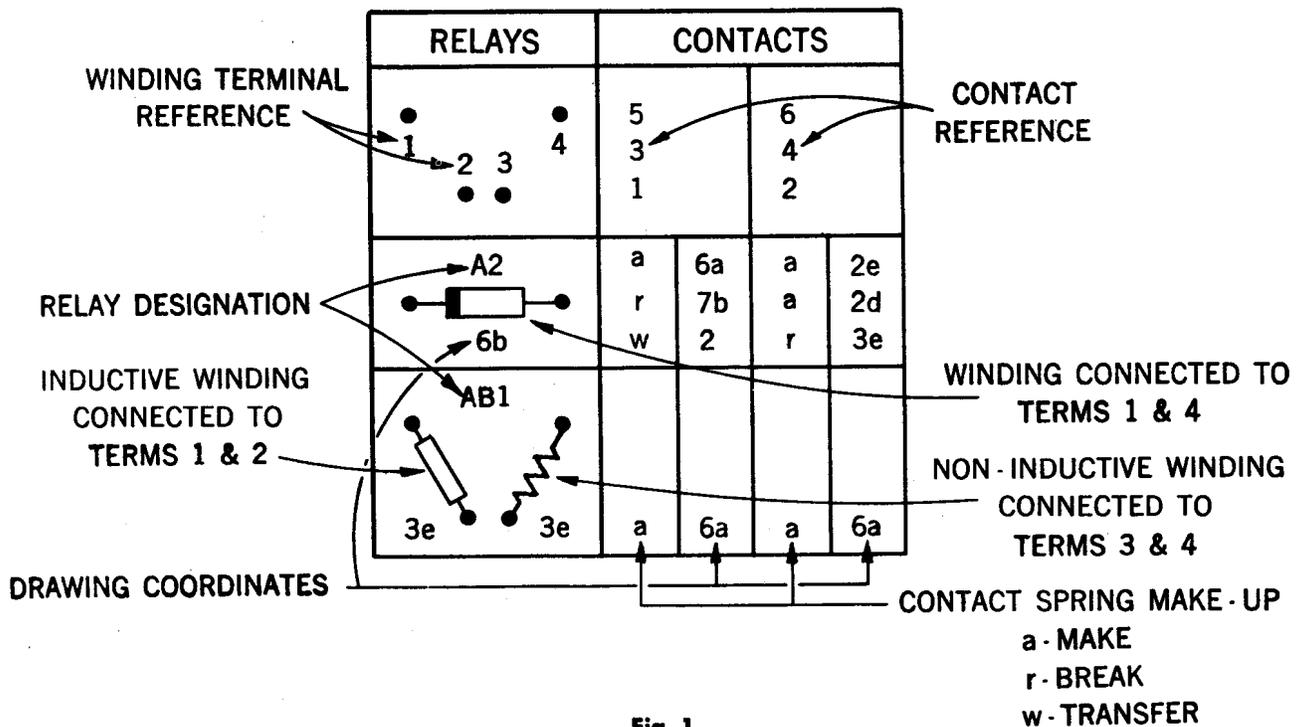

Fig. 1
1.08 The tables at the bottom of the schematics give the location of each relay winding terminal and its associated contacts by drawing coordinates. The contact spring make-up is also shown. Part of a table is shown in Fig. 1 with a labeled description.